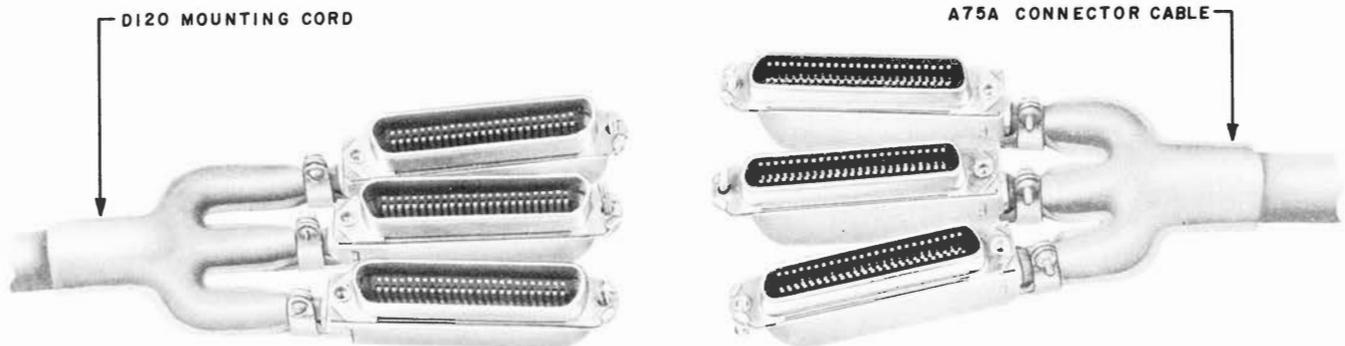

Fig. 3 - Mounting Cord and Connector Cable
2.08 A-type connector cables are used to connect the mounting cord to the key system apparatus cabinet or distribution terminal (Fig. 3 and 4). See the section entitled Overfloor Ducts, Identification and Installation for housing mounting cord plugs and connector cable connectors.